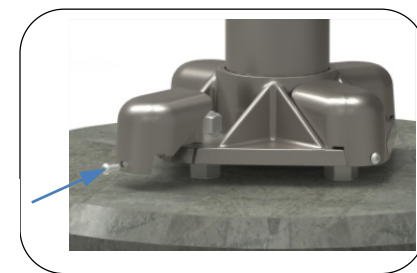

Fig. 6 – Install nut covers
7. Install the nut covers as shown in Fig. 6.